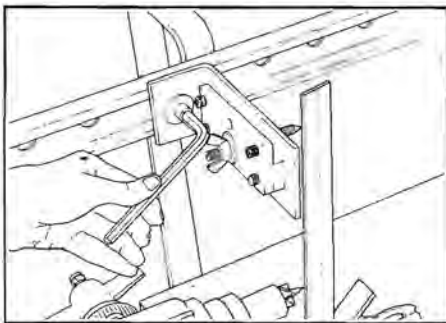

Figure 5. Use a combination square to align the left-hand template center with the drive center.
**1. Align the left-hand template center with the drive center.** Move the table assembly next to the headstock and lock the carriage. Table height should be previously adjusted so the top of the cutter is level with drive center. Loosen the template bracket screw (11) with a 5/16" Allen wrench and the two template clamp screws (8) with a 1/4" Allen wrench.
Position an accurate combination square so that its front edge just contacts the tip of the drive center. Carefully move the template support assembly forward on the channel until the tip of the template center just contacts the front edge of the square. Tighten screw (11). (See Figure 5.)